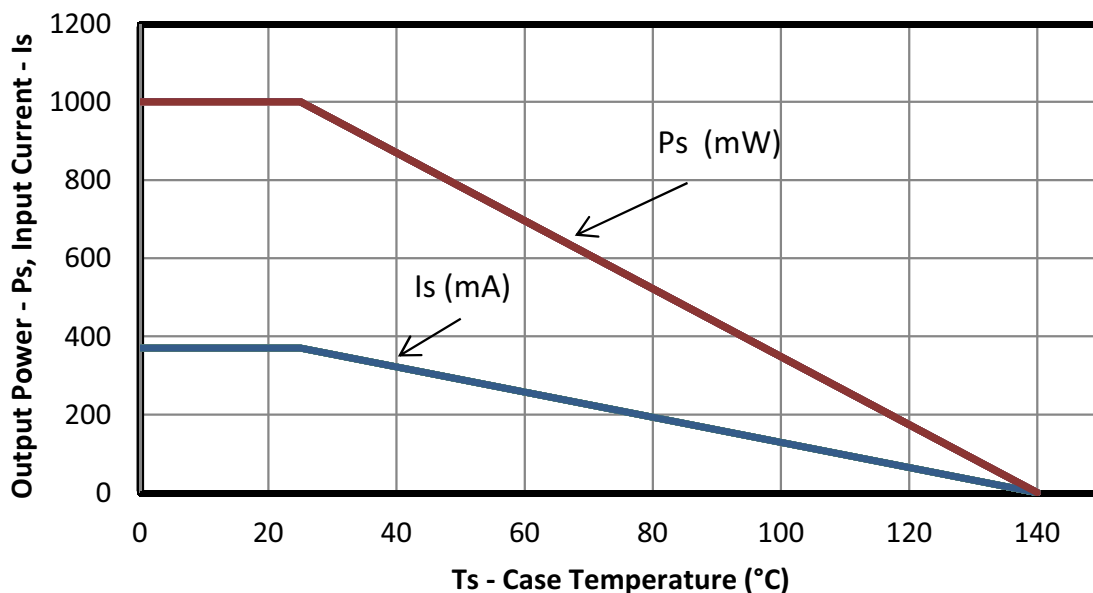

Figure 4. (SOIC-8) Thermal Derating Curve, Dependence of Safety Limiting Values with Case Temperature per DIN EN 60747-5-2
***Note:** Maximum value allowed in the event of a failure; also see the thermal derating curve in Figures 4, 5, 6, and 7.